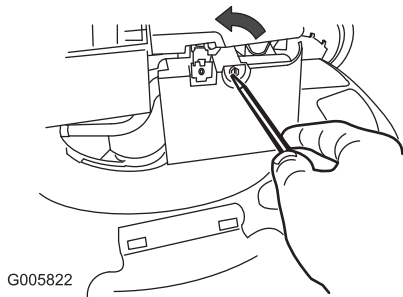

Figure 32
1. Use a screw driver to open the air-filter cover (Figure 32).